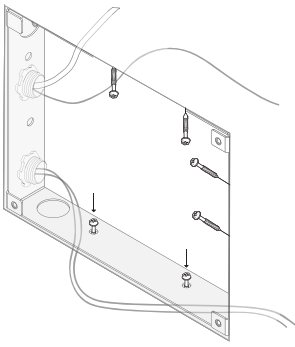

Figure 5
**STEP 5** - Remove connectors from packaging box. As illustrated in Figure 5, connect wires to wiring terminals. Refer to wiring section for terminal identification.